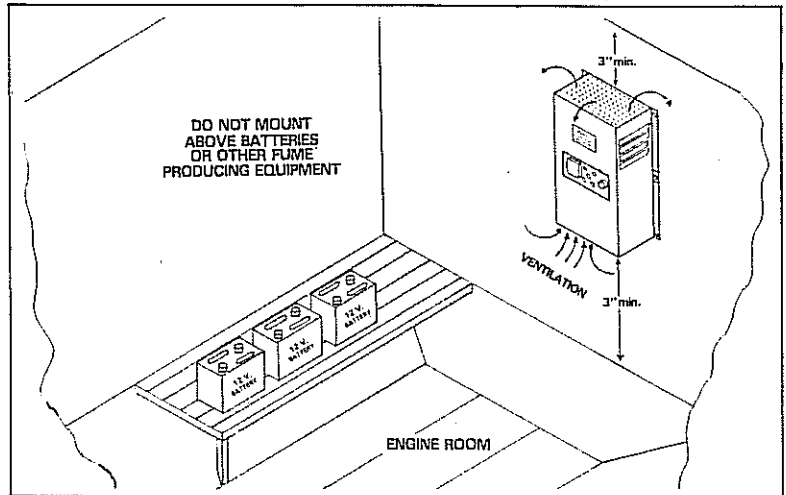

Figure 3. Mounting Your Sentry Charger.
1. Select a dry, well-ventilated area, near, but not above batteries. Mount in vertical position, to create a natural ventilation for cooling the unit. Note that the wire connections are at the bottom of the unit. Leave at least three (3) inches clearance above and below the unit for proper ventilation. See Figure 3.